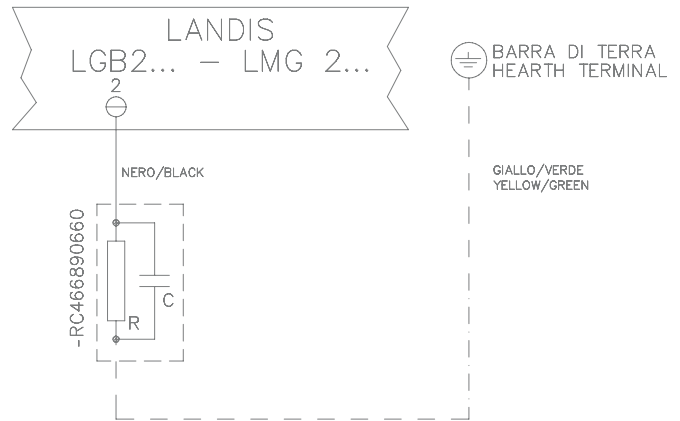

Fig. 44
* In this case insert an RC filter (see Fig. 44)